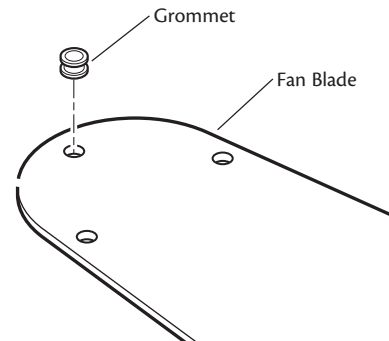

Figure 22 - Inserting the grommets into the fan blades
- Your fan may include blade grommets. If your fan has grommets, insert them by hand into the holes on the blades as shown in Figure 22.